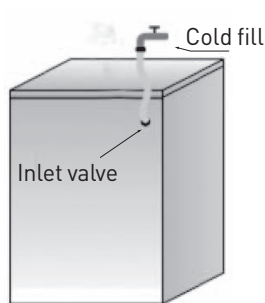

Fig.1
1. Fix the inlet hose to the cold water tap and to the inlet valve on the rear side of the machine as (Fig.1).